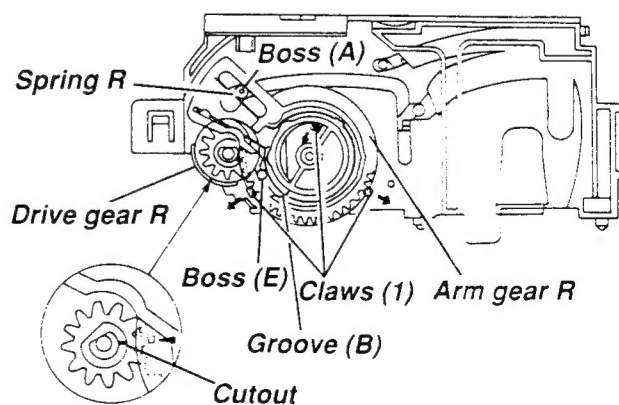

Fig. 4-1-4
1. Move three claws (1) in the direction of the arrow and remove the arm gear R. (Refer to Fig. 4-1-4.)
- Pay attention to positions of the boss (A) and the spring R. (Refer to Fig. 4-1-4.)
- In installing the holder guide, insert the tip of the door lock lever (B) into the hole (B') on the holder guide.
- Confirm that boss (E) goes into groove (B) of Fig. 4-1-4.
(10) Door lock spring replacement